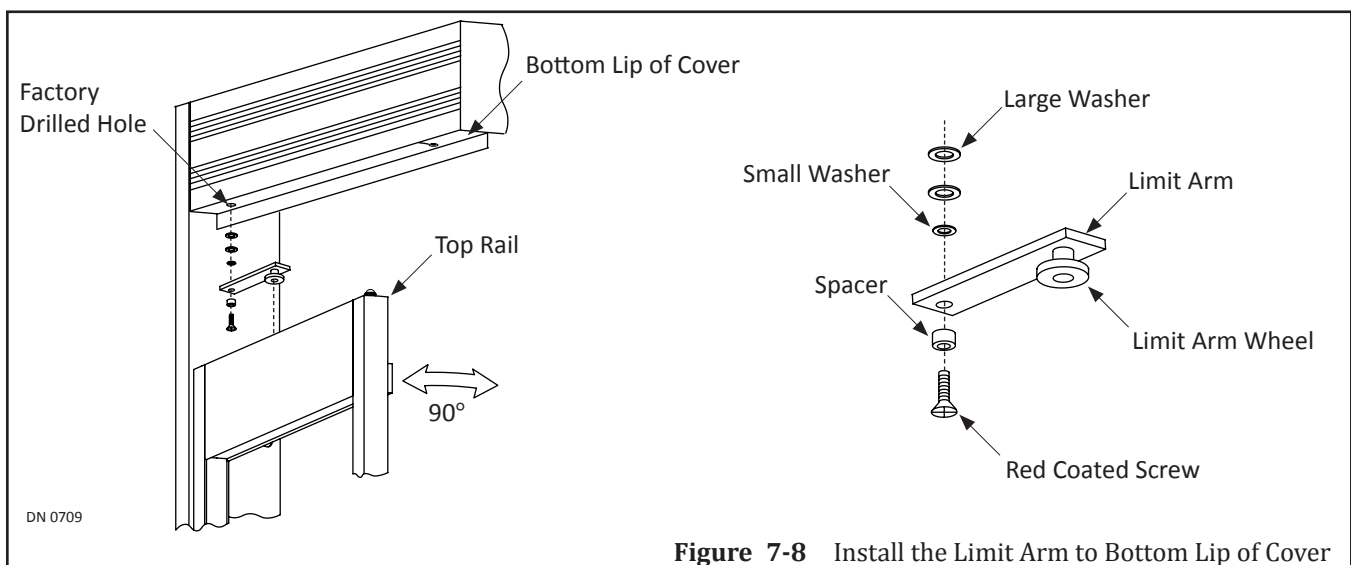

**Figure 7-7** Position Swing Panel in Correct Direction
4. Continue to route the Cable Wiring through the top of Jamb Stile then down to where the Rocker Switch was removed. Please see Figure 7-7.
2. Go to the Retracting Pin located inside the Pivot Stile at the very top. Please see Figure 7-7.